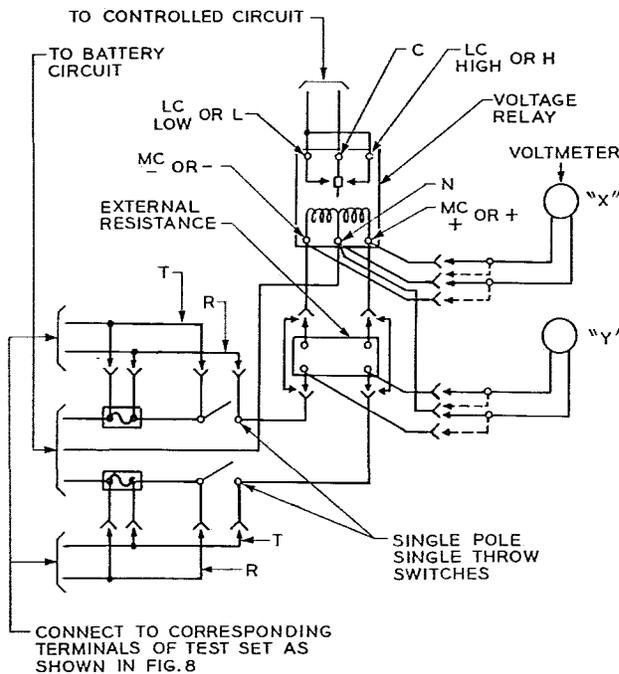
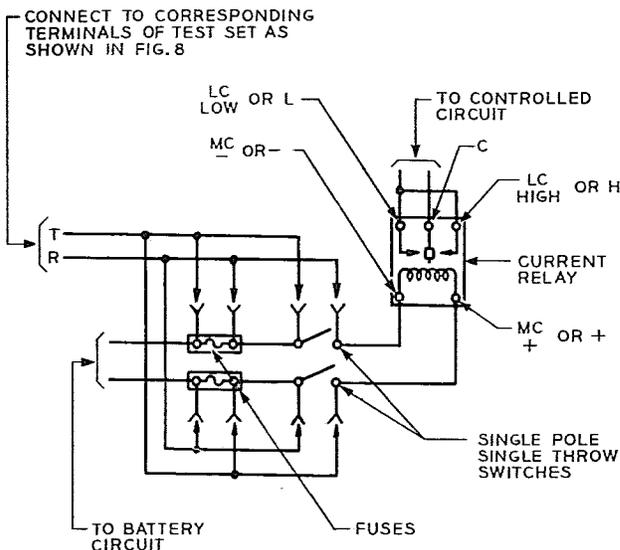

FIG. 9 - METHOD OF CONNECTING TEST APPARATUS FOR DIFFERENTIAL VOLTAGE RELAYS
FIG. 10 - METHOD OF CONNECTING TEST APPARATUS FOR CURRENT RELAYS
(10) After making this readjustment check the relays with the cover on for proper functioning on the high and low voltage limits as covered in (2) to (5), inclusive and if necessary refine adjustments covered in (6) to (9), inclusive.
(11) Differential Voltage Relays: In the case of differential voltage relays, set up the test apparatus as shown in Fig. 9 and proceed as follows. In cases where a fixed resistance is directly connected to the relay and mounted on the same panel connect the voltmeter outside the resistance as indicated by Y wiring in Fig. 9. Otherwise connect the voltmeter as shown in X wiring.
(12) Vary the voltage across the one winding by means of the test set and observe whether or not the alarm is given when the unbalance voltage is within the specified limits. In the same manner check the relay for proper functioning when the voltage across the other winding is within specified unbalance limits. To check this winding it is necessary to shift only the two leads which connect the test set as shown in Fig. 9.
(13) If the relay does not operate satisfactorily readjust it in a manner similar to that covered in (6) to (10), inclusive.
(14) Current Relays: Connect the test set as shown in Fig. 10 and adjust the current to the specified values. Before using the milliammeter in the 35 type test set, calibrate the meter with a standard milliammeter.
(15) Vary the current within the specified limits in a manner similar to that covered in (2) to (5), inclusive and observe that the relay functions properly.
(16) If it is necessary to make any readjustments proceed in a manner similar to that covered in (6) to (10), inclusive.
(17) KS-2254 Relay: No field readjustment is recommended for this relay. If the relay fails to operate satisfactorily, refer the matter to the supervisor.